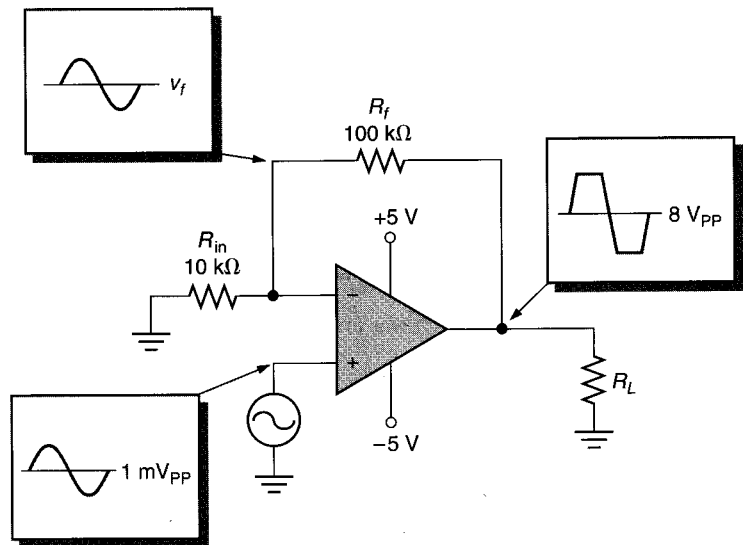

FIGURE 15.69
43. The circuit shown in Figure 15.69 has the waveforms shown. Discuss the possible cause(s) of the problem.